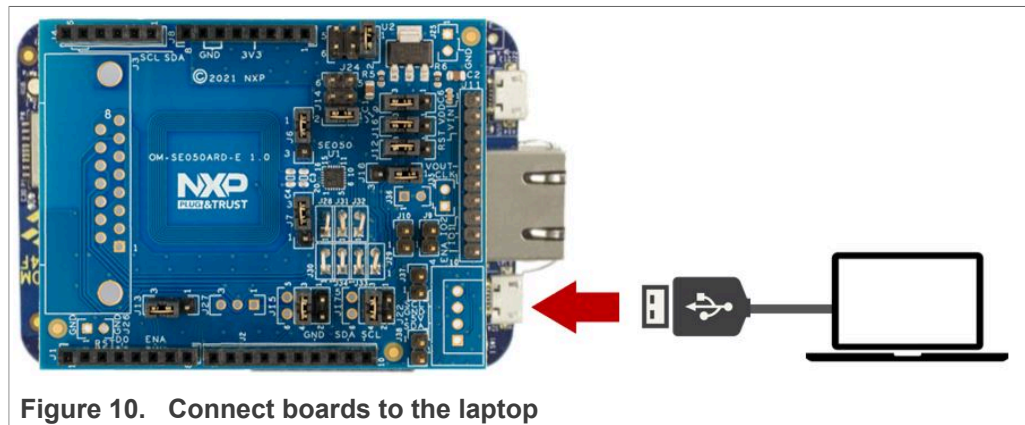

Figure 10. Connect boards to the laptop
- Attach a USB cable from the computer to the K64F OpenSDA debug USB connector as shown in Figure 10.